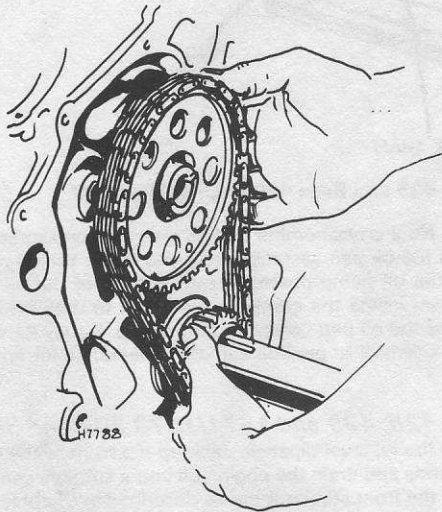

Fig. 1.18 Withdrawing the timing chain and sprockets (Sec. 19)
- 3 Using a suitable puller, withdraw the crankshaft sprocket and, if necessary, the camshaft sprocket; remove both sprockets and chain as a complete assembly, (Fig. 1.18).